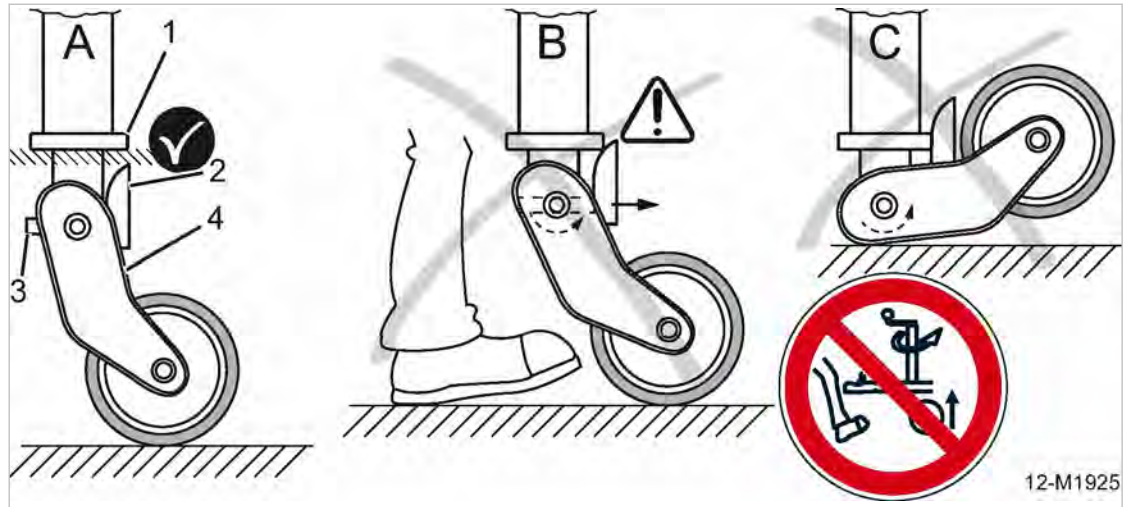

Fig. 85 Warning "Risk of injury due to falling towing device"
For this reason, the jockey wheel of a separated machine must be wound down until the cam ② no longer touches the bead ①. The automatic folding of the wheel suspension is thus blocked (see figure 85/A).
When the jockey wheel of a separated machine is wound up further, the bead pushes against the cam of the retaining pin (see figure 85/B). The retaining pin ③ unlocks the wheel suspension ④ which will abruptly fold (see figure 85/C).